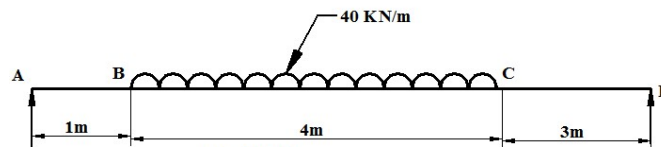

Figure 39
3. For the beam loaded as shown in **Figure 39**, find the position and magnitude of maximum deflection. Take  $E=200 \times 10^6 \text{ N/mm}^2$  and  $I=4.3 \times 10^8 \text{ mm}^4$ .